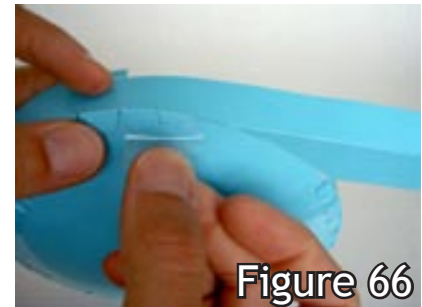

Figure 66
15. Tape the small flaps of the “funnel entry” to the underside of the “funnel floor.” (fig. 66)